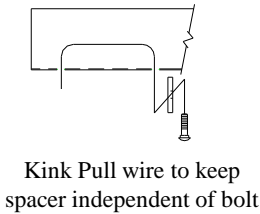

Figure 2
①	Qty. (4)	Carriage bolt – 7/16-14 X 1-1/4" GR 5	③	Qty. (4)	Washer – conical 7/16"
②	Qty. (4)	Spacer – 1" X 2" X 3/16"	④	Qty. (4)	Nut – 7/16 -14
- Using pull wires, feed spacers and carriage bolts into forward hole position (both rails). Access hole located at end of the frame rail and before the impact bar. Leave pull wire attached. Note: It is much easier if bolt and spacer are not engaged while inserting them into frame, refer to illustration. See Figure 2.